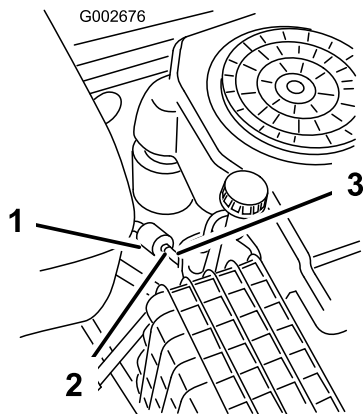

Figure 29
5. Loosen the hose clamp at the fuel filter and slide it up the fuel line away from the fuel filter (Figure 29).
6. Pull the fuel line off of the fuel filter (Figure 29).
8. Install the fuel line onto the fuel filter. Slide the hose clamp close to the fuel filter to secure the fuel line (Figure 29).
4. Squeeze the ends of the hose clamps together and slide them away from the filter (Figure 29).
6. Install a new filter and move the hose clamps close to the filter (Figure 29).